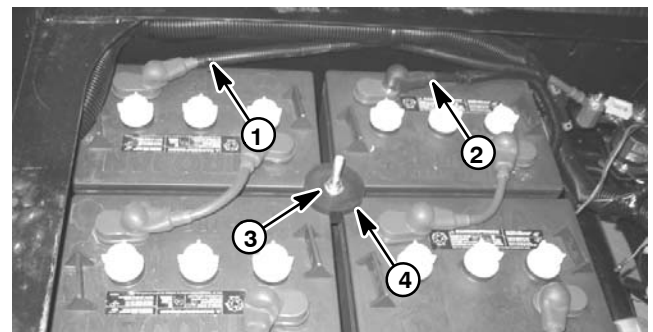

Figure 44
5. Remove flange nuts (item 11) and battery retainers (item 10) used to secure batteries to vehicle (Fig. 44).
4. Install two (2) battery retainers and nuts to secure batteries to vehicle (Fig. 44). Torque nuts from 115 to 125 in-lb (13 to 14.1 N-m).